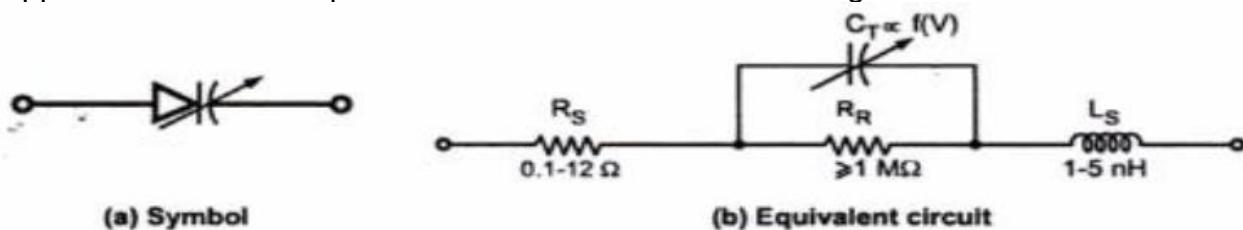

Fig. 5.14 Varactor diode
- The Fig. 5.14 (a) shows the symbol of Varactor diode while the Fig. 5.14 (b) shows the first approximation for its equivalent circuit in the reverse bias region.